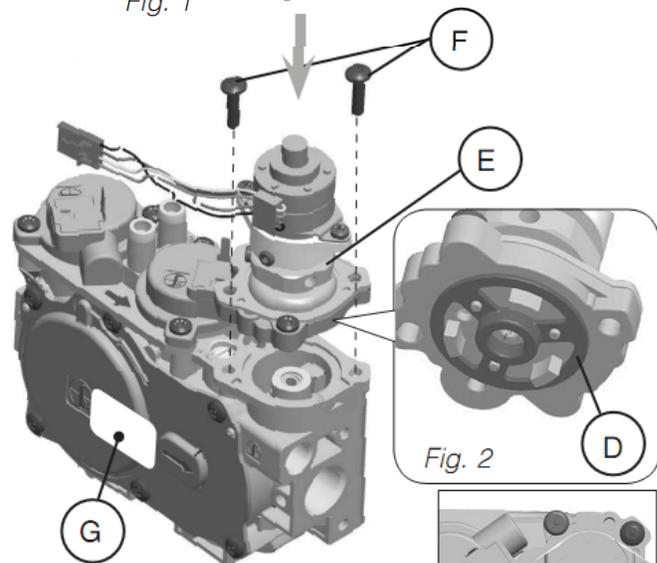

Fig. 3
- 4** Install the new STEPPER MOTOR pressure regulator assembly, as shown in Fig. 3 and Fig. 4. Use the supplied screws (F), M4 x 0.7 threaded, length of thread $L=(16\text{ mm} + 0 - 0.5\text{ mm})$, steel material, resistance class 8.8 (see Fig. 5).